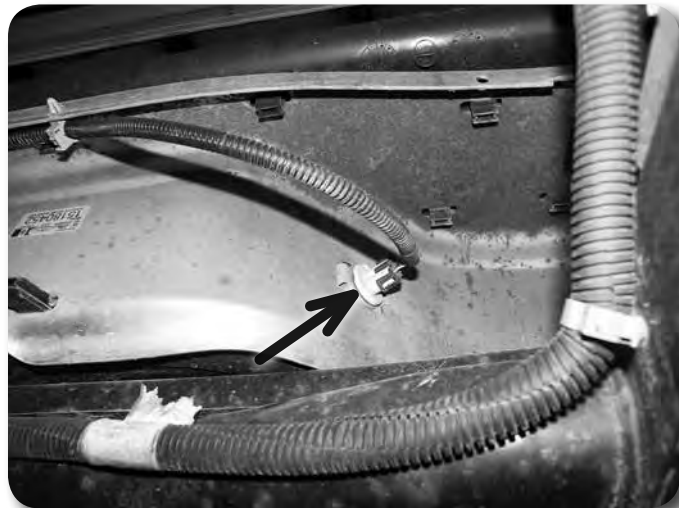

Figure 15
26. Disconnect the license plate lights from the bumper **Figure 15** and the license plate wiring harness from the retaining clips **Figure 16**.